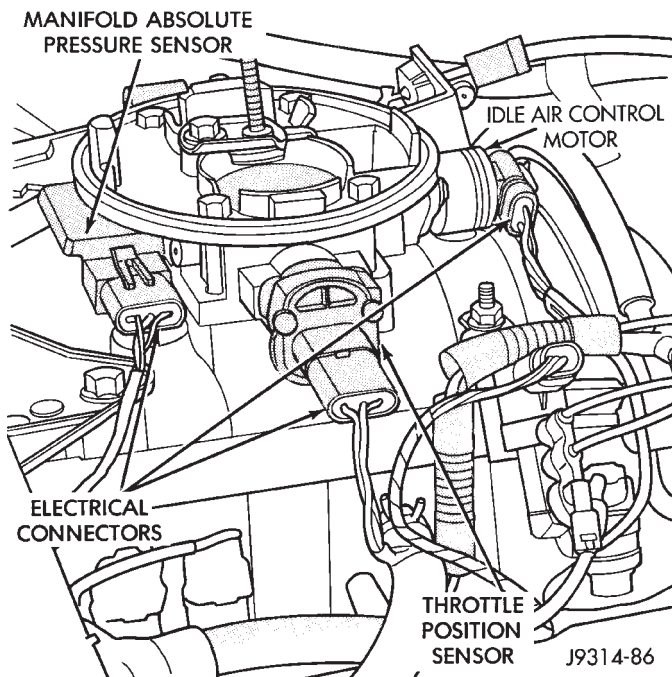

Fig. 25 MAP Sensor—5.2L Engine
5.2L Engine: The MAP sensor is located on the front of the throttle body (Fig. 25).
(1) 4.0L Engine: Inspect the sensor vacuum hose connections at the throttle body and sensor (Fig. 25). Repair as necessary.